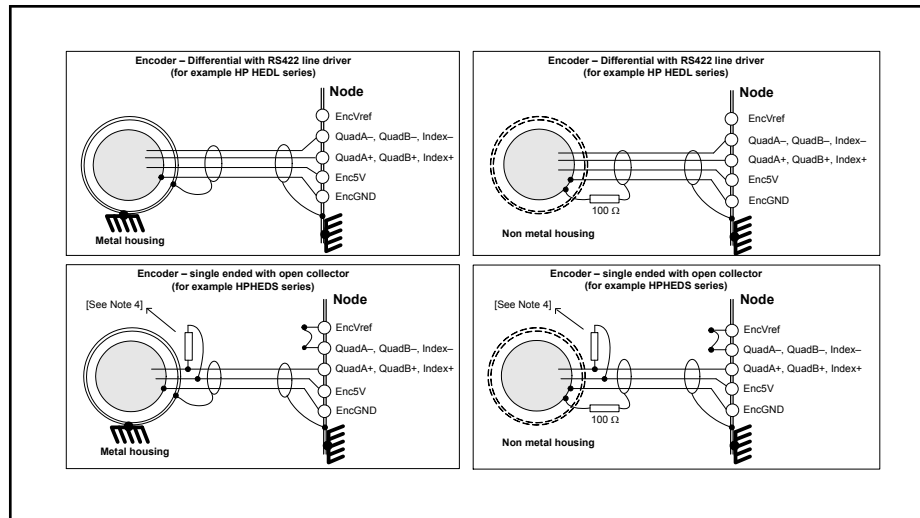

Fig. 13-9: Examples of correct connections
- To connect the quadrature encoder hardware-wise single-ended, you must connect the differential negative inputs on the drive module to EncVref. If the quadrature encoder is connected hardware-wise single-ended, see fig. 13-9 "Examples of correct connections" on page 174, this can be indicated in the software with the parameter
4. If necessary, depending on the type of encoder, add a pull up resistor, see fig. 13-9 "Examples of correct connections" on page 174 (see also the datasheet of the encoder).
Please study the datasheet of the encoder to find out the correct way to connect. fig. 13-9 "Examples of correct connections" on page 174 shows some examples.